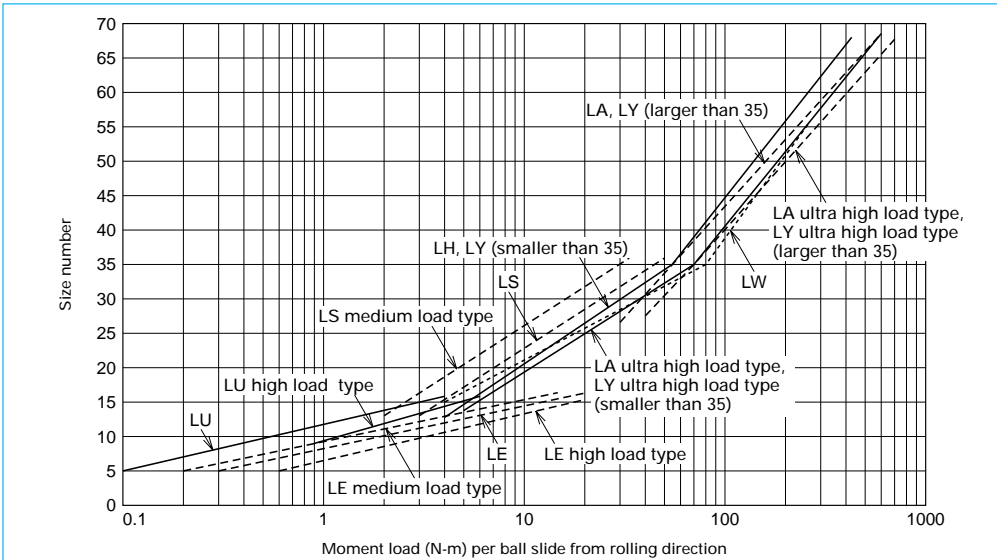
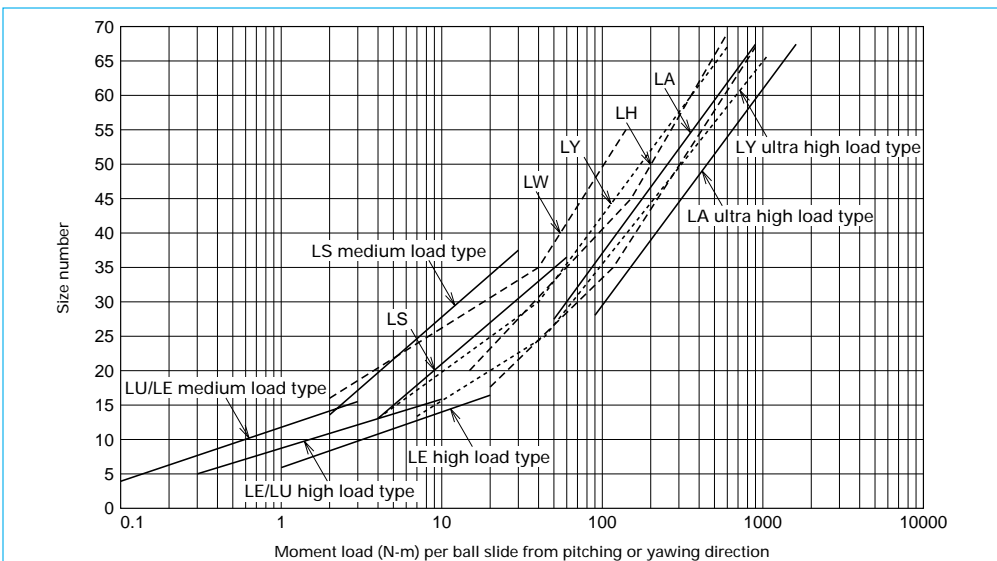

Fig.I-3-8 Selection based on the moment load, rolling direction
Fig.I-3-9 Selection based on the moment load, pitching or yawing direction
- Select the size (model number) based on the moment load per ball slide referring to either Fig. I-3-8 or Fig. I-3-9.